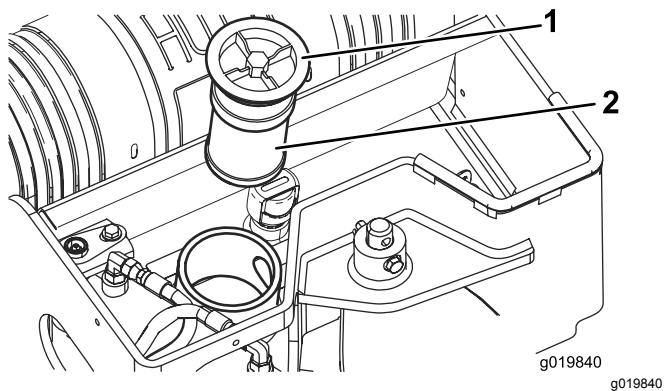

Figure 61
- Remove and discard the old filter (Figure 61).
- Install the replacement hydraulic filter and filler cap (Figure 61) and torque the bolt on top to 21 to 25 N·m (200 to 240 inch-lb).
- Remove the hydraulic-tank filler cap and filter (Figure 61).
- Install the hydraulic filter and filler cap (Figure 61) and torque bolt on top to 21 to 25 N·m (200 to 240 inch-lb).